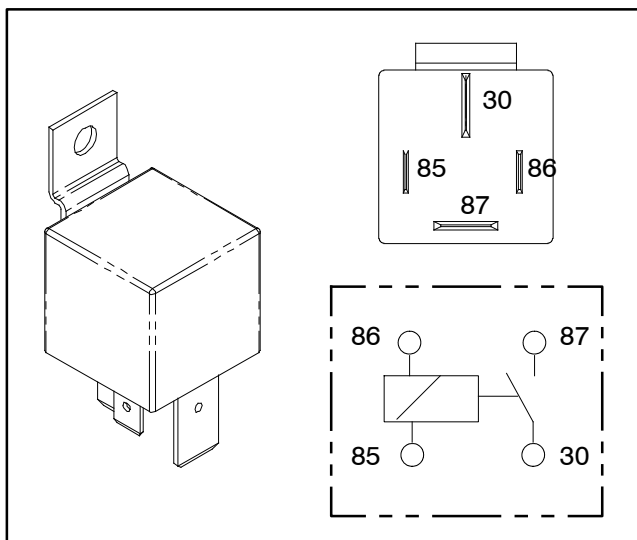

Figure 52
4. Verify coil resistance between terminals 85 and 86 with a multimeter (ohms setting) (Fig. 52). Resistance should be approximately **72 ohms**.